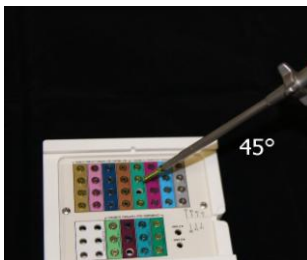

fig 2
- When engaging the Bone Screws in the screw caddy, bring the hex end of the Screw Driver to the selected Bone Screw (C-6010 thru C-6216) at a 45 Degree angle while holding the back end of the handle with one hand (fig. 2)